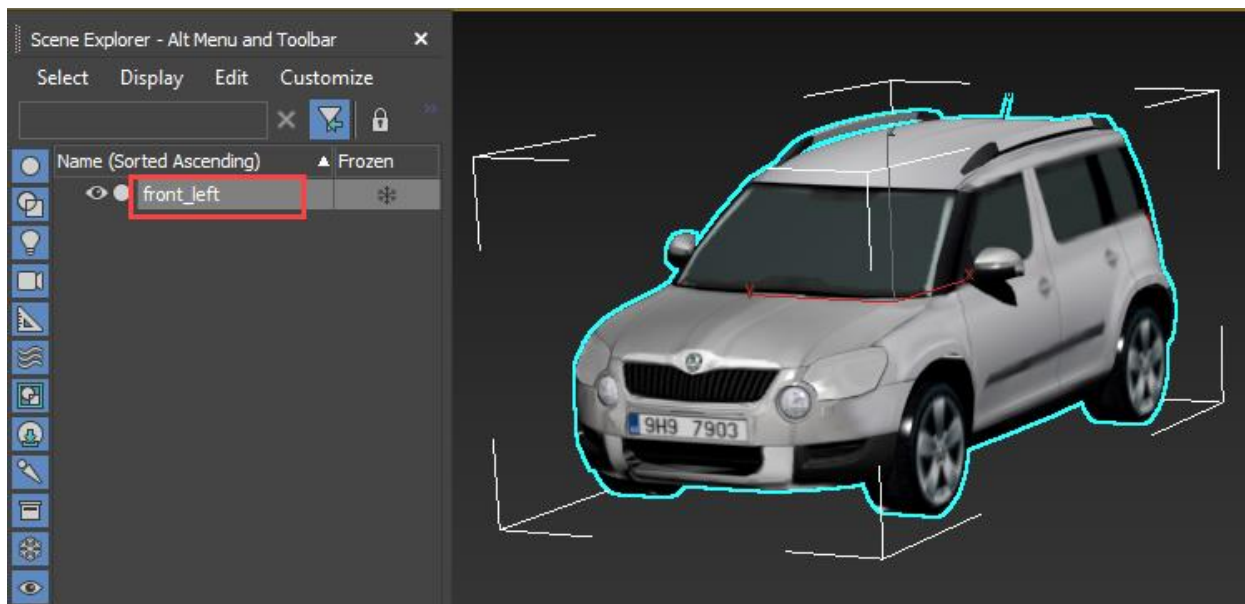

Figure 30.12. The whole car is highlighted
6. Finally attach **skoda_yeti** to **front_left** how it is described above in Item 5. After all you will be able to see the only **front_left** element in the **Scene Explorer** window and the whole car will be highlighted in the main window, see Figure 30.12.